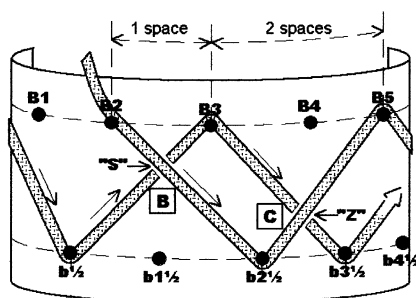

Figure 7b (3x5)
- At Fig 7b the strand b1/2-B3 crosses strand B2-b21/2 at intersection B. The Bight space separation for this intersection is Odd (1 space - B2 to B3) therefore crossing is type S (active strand is ascending so strand is under).
- At Fig 7b the strand B3-b31/2 crosses strand b21/2-B5 at intersection C. The Bight space separation for this intersection is Even (2 spaces - B3 to B5) therefore crossing is type "Z" (active strand is descending so strand is under).